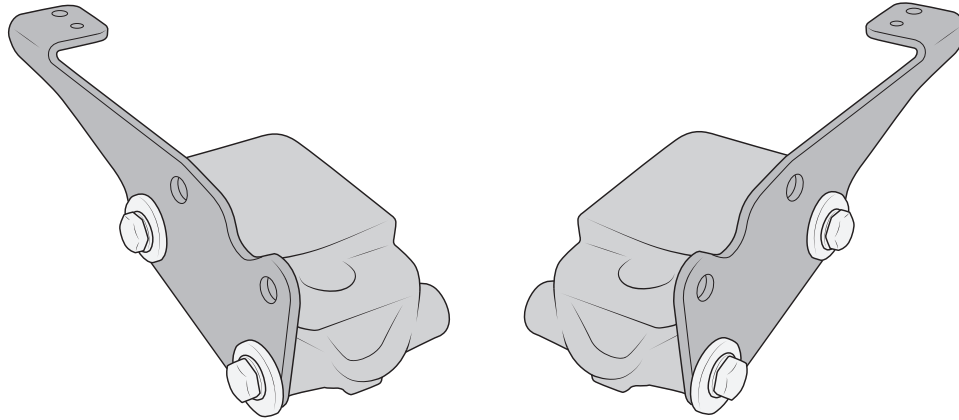

Figure 25
- A. Pre-assemble the brake line/bump stop brackets to the bump stops as shown (fig. 25). Only snug bolts at this time, you will need movement to adjust position on vehicle.